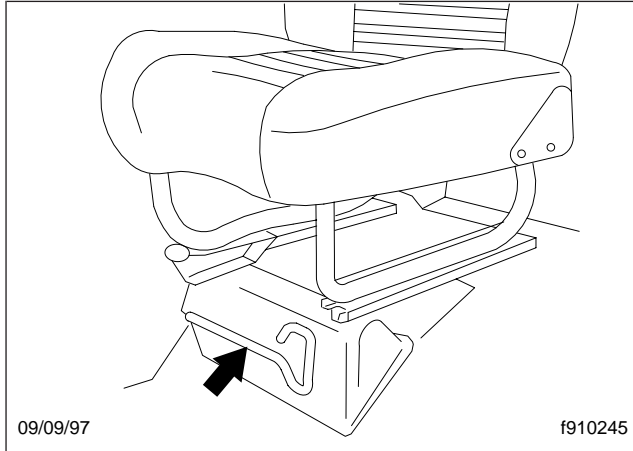

Fig. 2.14, Cab Lock Handle
2. The handle for the cab lock control is located on the lower front face of the driver's seat (**Fig. 2.14**). Remove the handle from the housing.